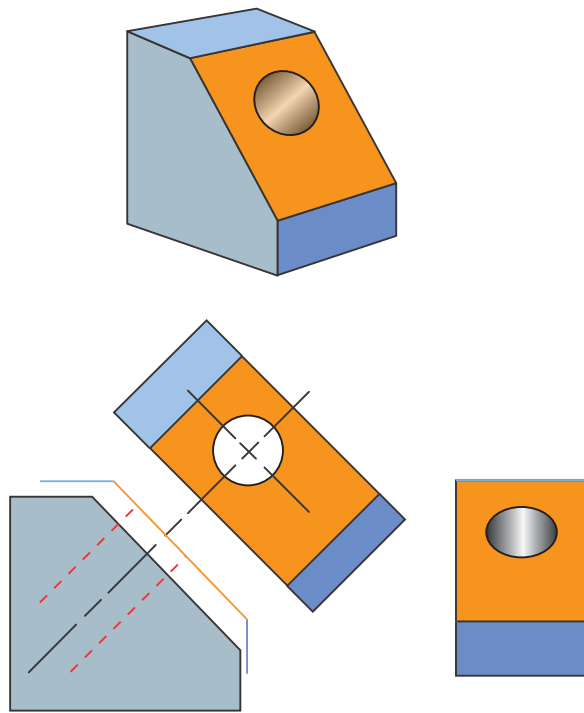

FIGURE 4-10 Note that the round hole looks misshapen or elliptical in the right-side view but looks round in the special view. © Cengage Learning 2012
- **Rotated views**—A rotated view can be used to show a surface of the part that would not normally be drawn square to any one of the six normal view planes. If a surface is not square to the viewing angle, then lines may be distorted. For example, a circle when viewed at an angle looks like an ellipse, Figure 4-10.